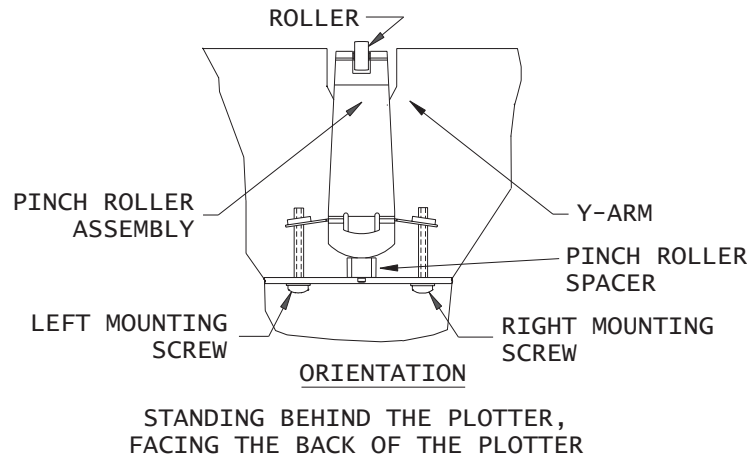

Figure 3-18. Pinch Roller Support and Mounting Screws.
3. Figure 3-18 shows the Pinch Roller, Pinch Roller Spacer and the mounting screws. You must stand behind the plotter in order to adjust the mounting screws on the Pinch Roller Supports.